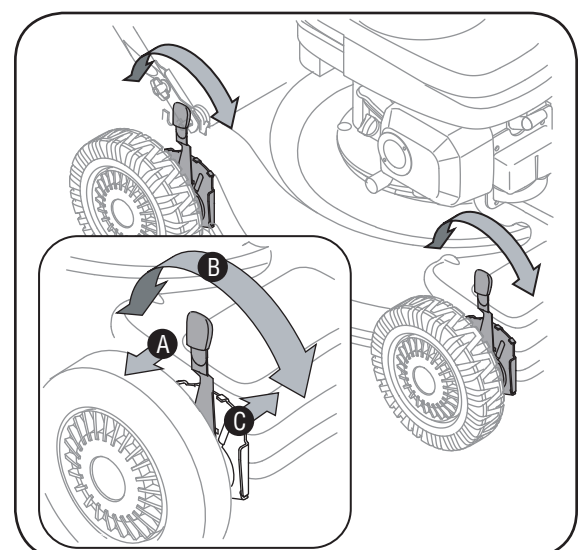

Figure 3-4
- b. Move it to any of the nine positions for desired cutting height. See Figure 3-4.